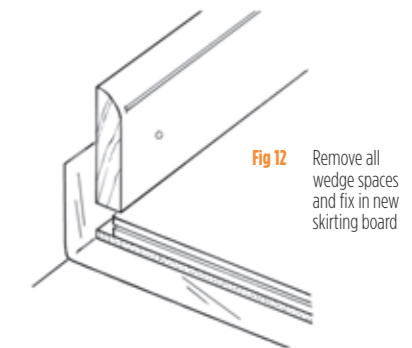

Fig 12 Remove all wedge spaces and fix in new skirting board
- Finally, remove all edge spacers and fix a new skirting board in place, ensuring that the new floor can move freely under the skirting board (see Fig 12).